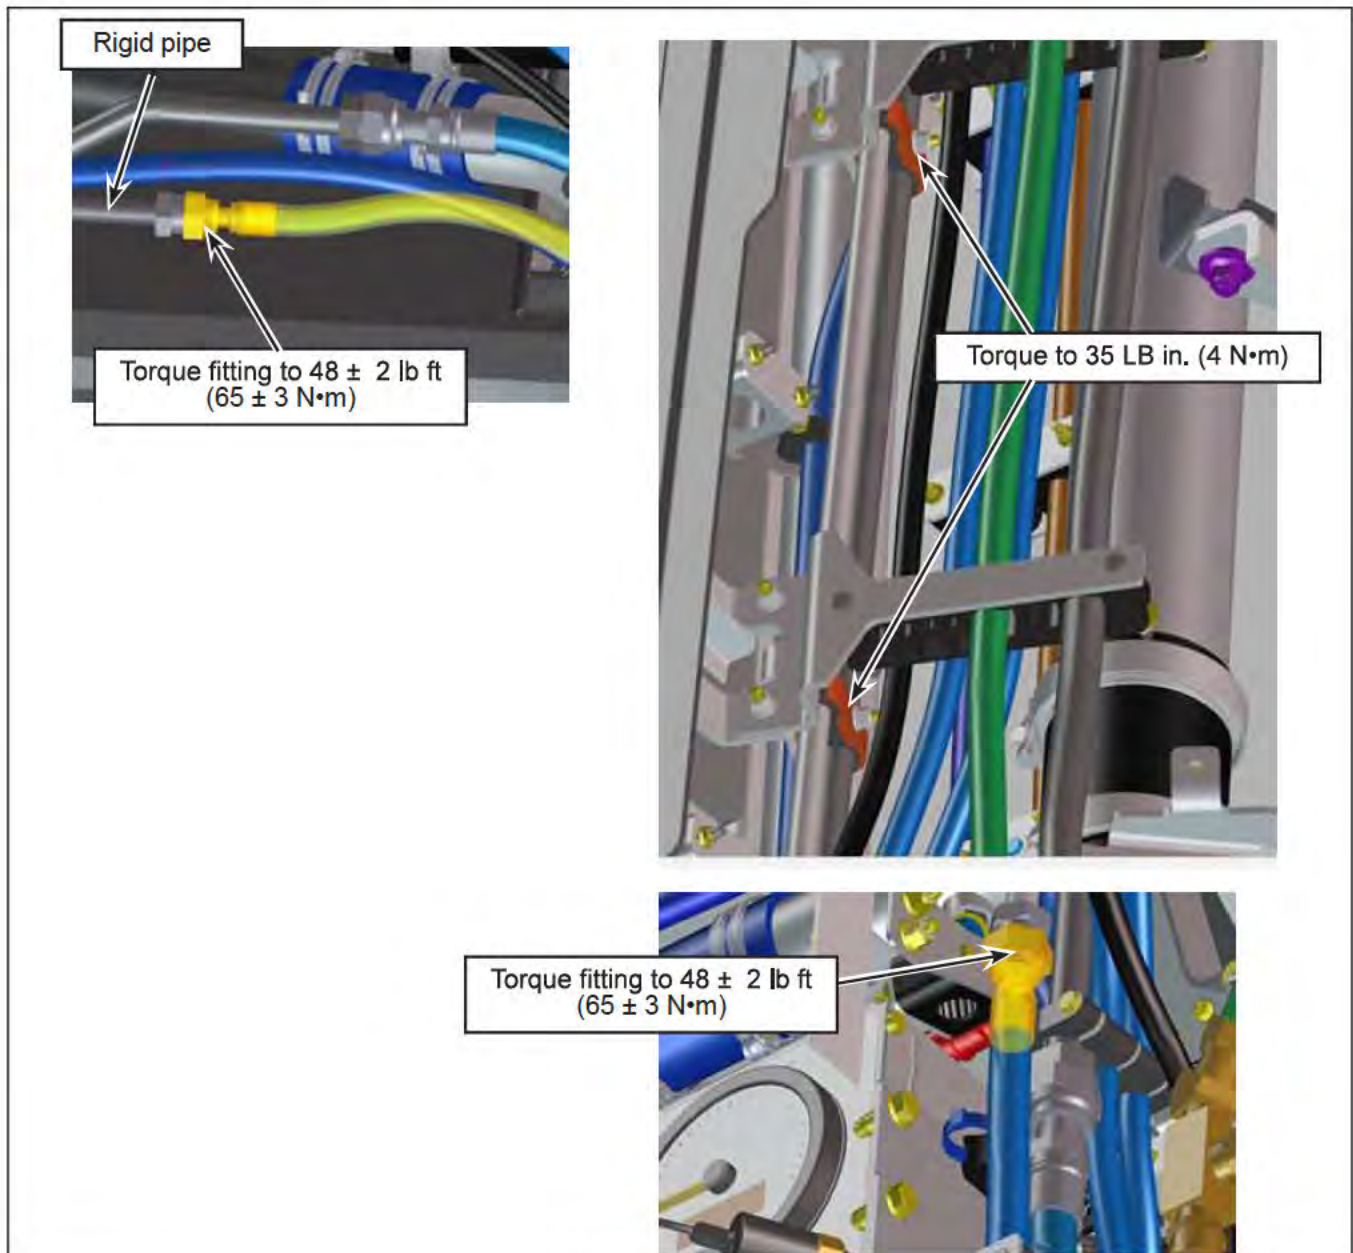

Figure 8 - Torque Value
- 2.14. Affix in the same position the hydraulic hose and rigid pipe assembly to the vehicle frame with the retained split blocks. See Figure 8 for torque value.
- 2.15. Connect and tight the hydraulic hose to the lower portion of the rigid pipe. See Figure 8 for torque value.
- 2.16. Connect and tight N95740-53 hydraulic hose to the rigid pipe in the radiator compartment. See Figure 8 for torque value.